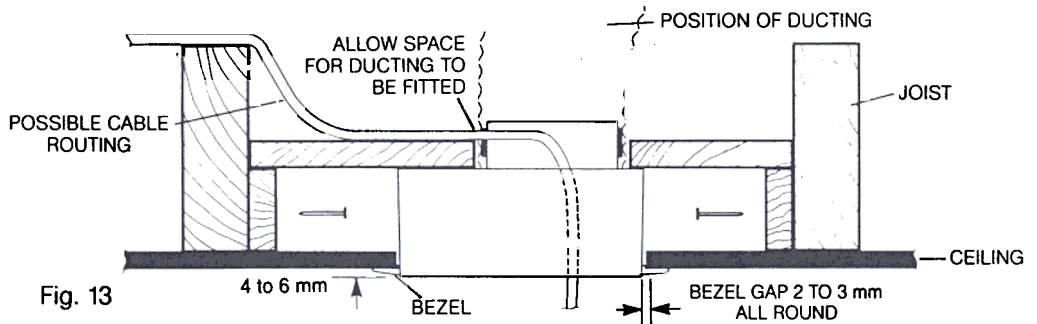

Fig. 13
**8.1** Make a support to fit between the joists as shown (see Fig. 13). Mark the positions and sizes of the holes for the exhaust and cable entry and hole centres for fixing the backplate using the template provided, which must be broken out along the perforations of